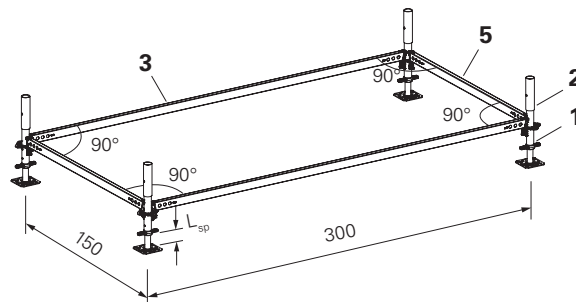

Fig. A3.02
$L_{sp} \leq 20$ cm. (Fig. A3.02)
- All ledgers must be at a 90° angle to each other. (Fig. A3.02)